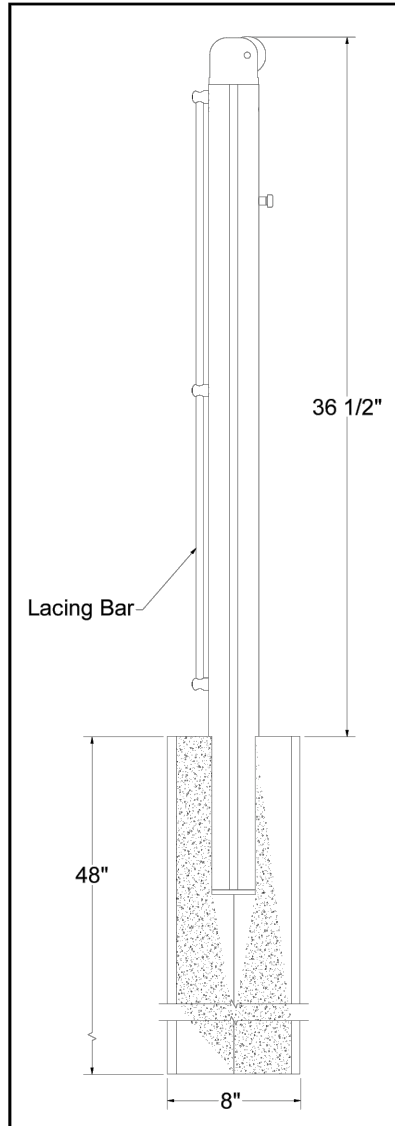

FIGURE 1
- Use the attached court diagram to determine where to locate and dig two 8" round and 48" deep holes 22 feet apart. See Figure 1.
- Insert *Winch* (A) and *Non-Winch* (B) posts into the holes with the lacing bars facing the pickleball court and fill holes with concrete. Each hole will require between 6 and 8 1/3 cubic foot bag of concrete. Make sure to brace posts while concrete is curing to maintain the 36 1/2" dimension and ensure the post remain perpendicular to the court surface. See Figure 1.